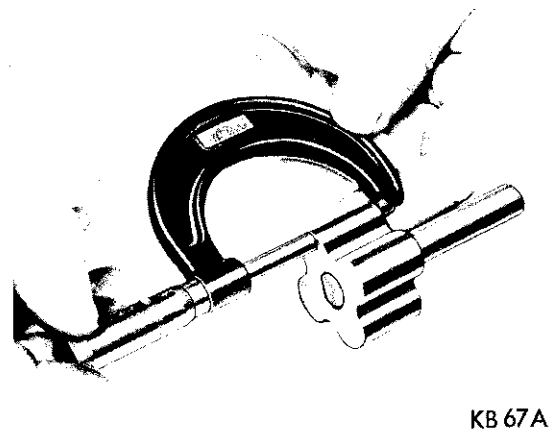

Fig. 60—Measuring Inner Rotor Thickness
- (4) If the inner rotor length measures less than .942 inch (Fig. 60), a new inner rotor should be installed.